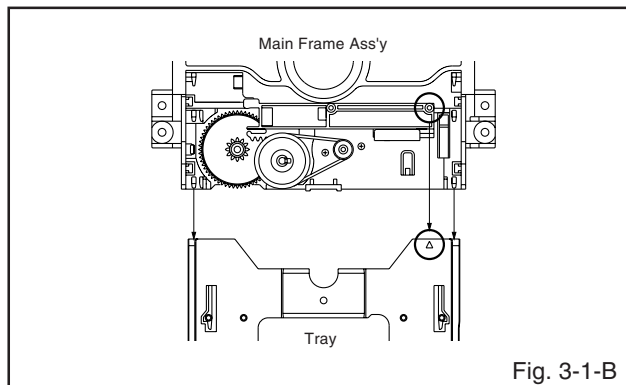

Fig. 3-1-B
1. In case of the Tray installation, install them as the circled section of Fig. 3-1-B so that the each markers are met.